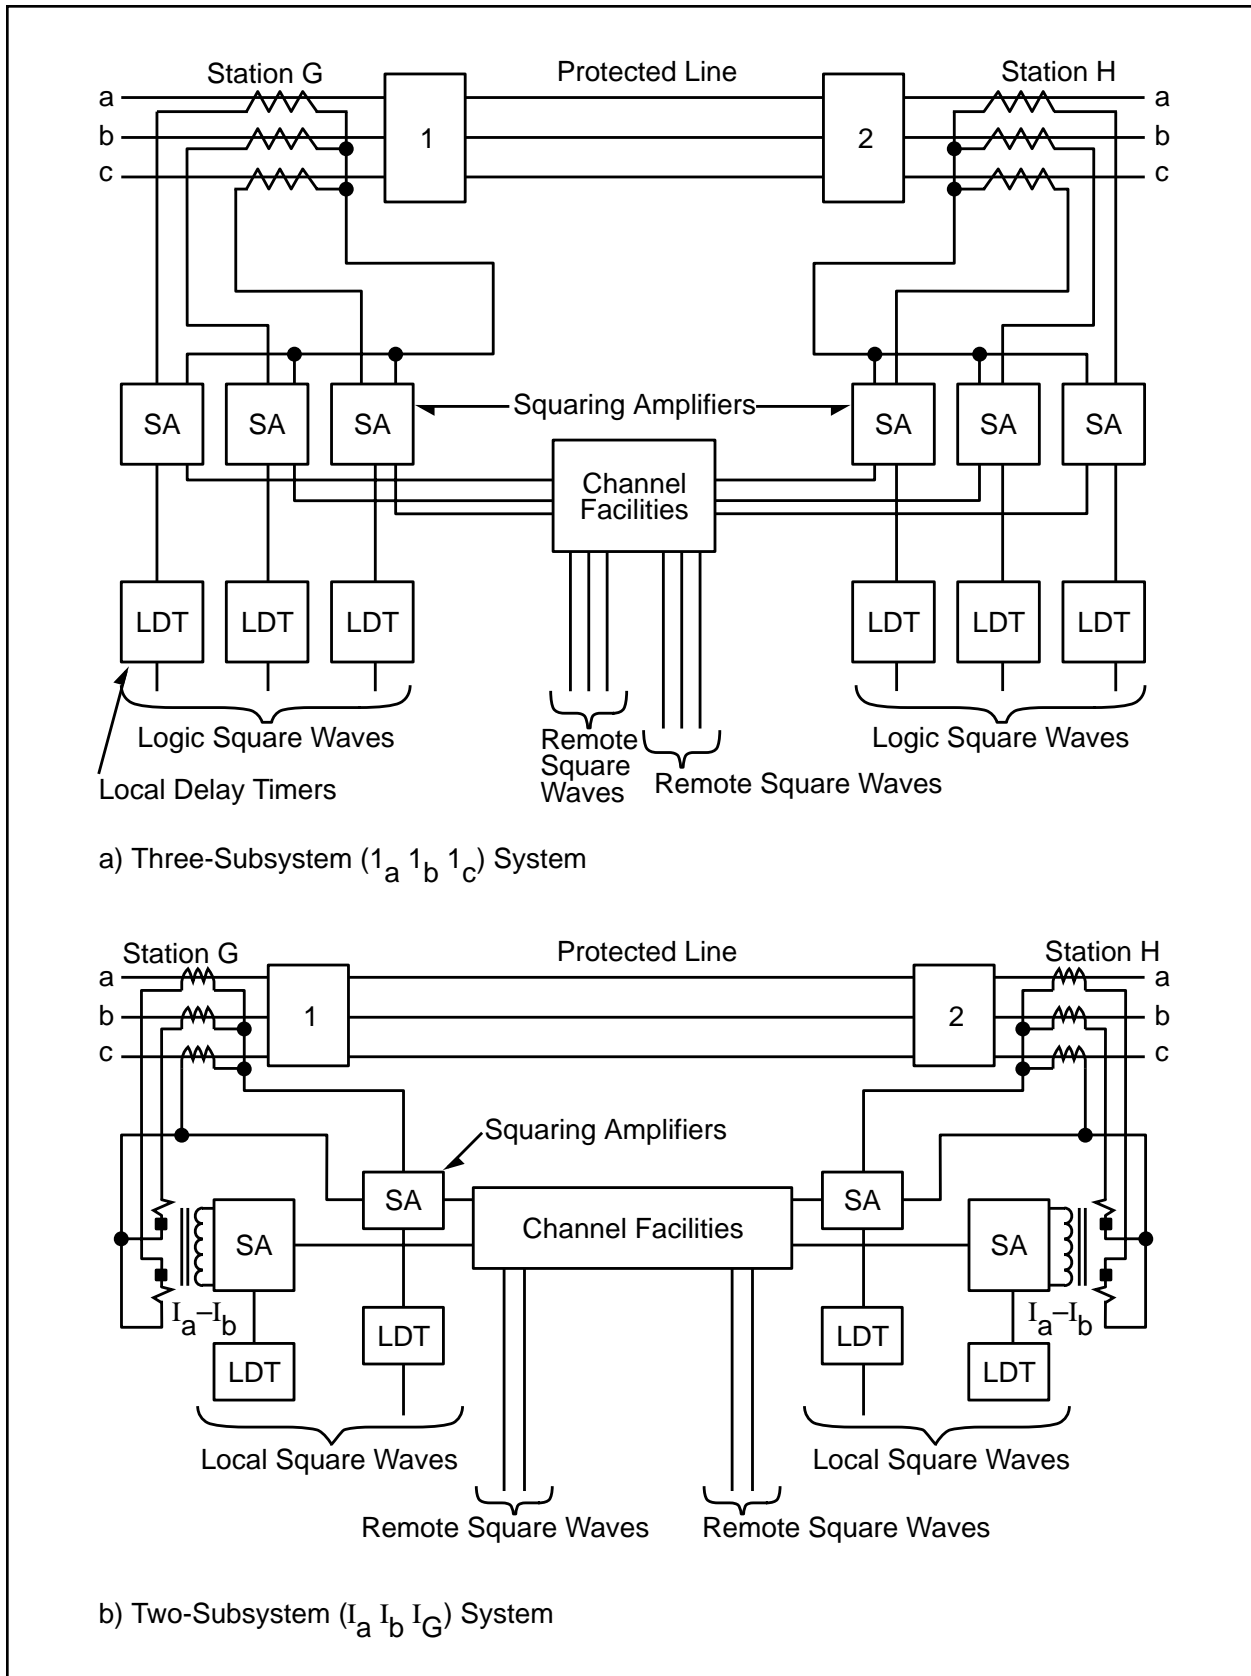

Figure 2-5. Basic Segregated Phase Comparison Systems.
The two-subsystem package is suitable for all applications except single-pole tripping, where the three-subsystem package must be applied. The basic operation of the scheme is illustrated in Figure 2-5. Each current is fed through a non-inductive resistor, supplying a voltage output to the squaring amplifier (SA) that is exactly proportional to the primary currents. The output of these amplifiers is used to key the individual channels and, through the local delay timers (LDT), to provide the local square waves for comparison. The timers are adjustable between 2 and 20 ms to